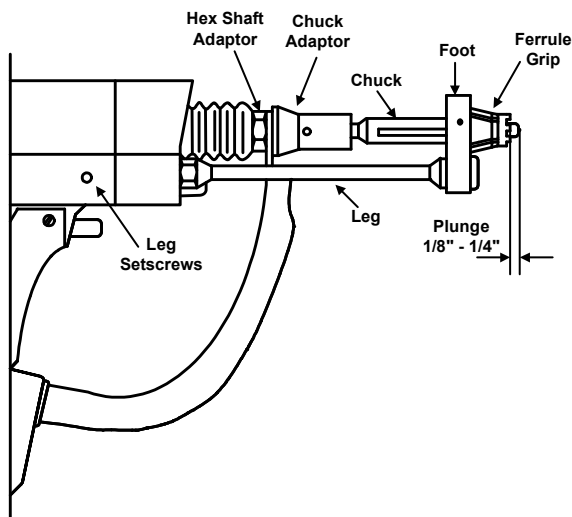

Figure 1: Gun assembly
1. Insert chuck for 1" or smaller studs into the chuck adaptor. While holding the gun by the chuck adaptor, lightly tap the chuck with a hammer until it is seated and held firmly in the taper of the chuck adaptor (*Figure 1*). Chucks for studs larger than 1" diameter screw onto the 1/2-20 thread of the hex shaft adaptor.
2. Insert Ferrule Grip into Foot and secure with setscrews provided (*Figure 1*).
1. Adjust the leg and foot assembly so that the stud extends 1/8" to 1/4" beyond the end of the ferrule (*Figure 1*).